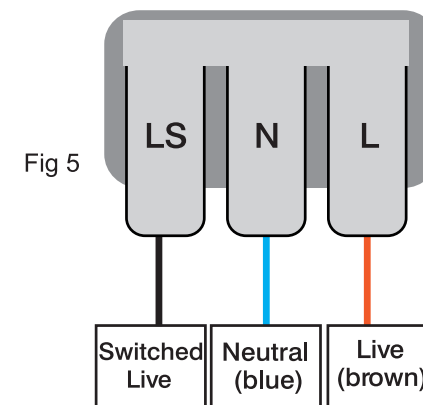

Fig 5
- For switchable maintained operation see Fig 5